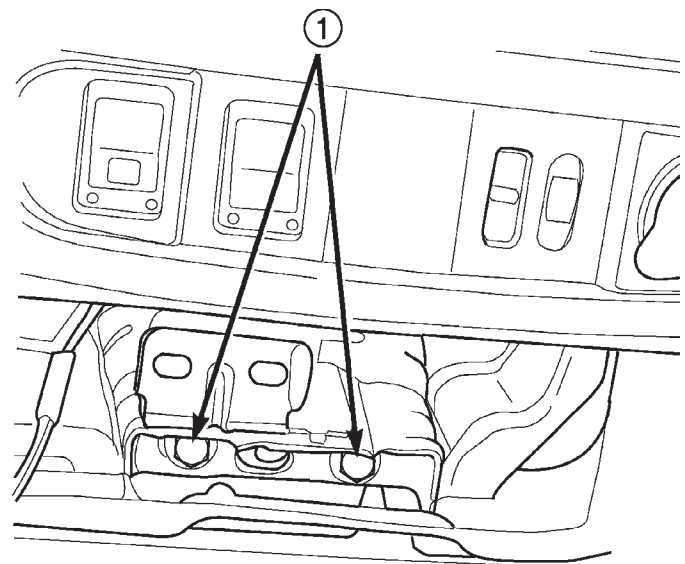

Fig. 13 Center I. P. Retaining Bolts
(28) Remove the (2) I. P. retaining bolts which attach the I. P. to the body at the tunnel bracket (Fig. 13).